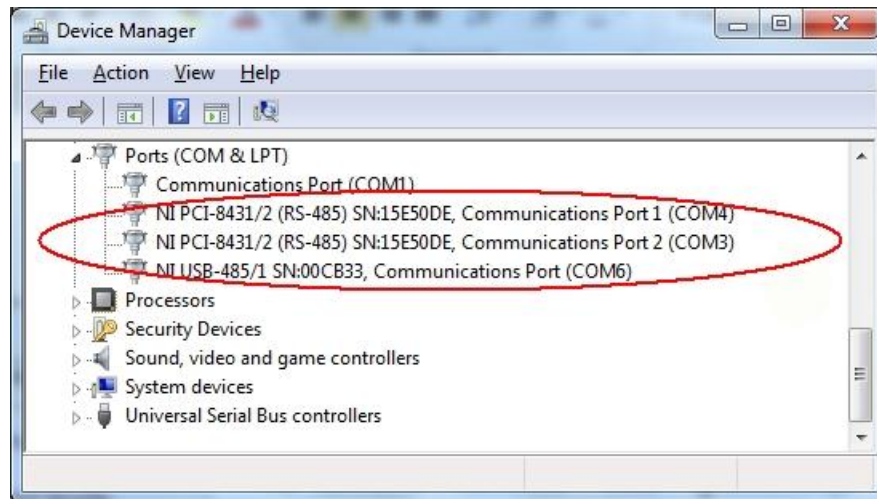

Figure 9: COM port assignments for PCI card and USB cable in Windows 7
4. Verify that the NI serial driver installation has completed successfully in the Device Manager. See *Control Panel -> Hardware and Sound*, or similar path, to locate this on the PC. An example for the appearance of the Device Manager in Windows 7 is shown in Figure 9